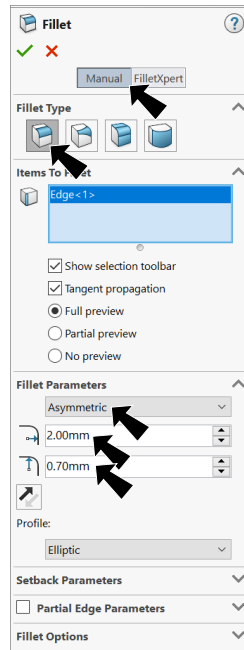

Fig. 39
Step 2. In the Fillet Property Manager, select **Manual**, **Fig. 39** under Fillet Type